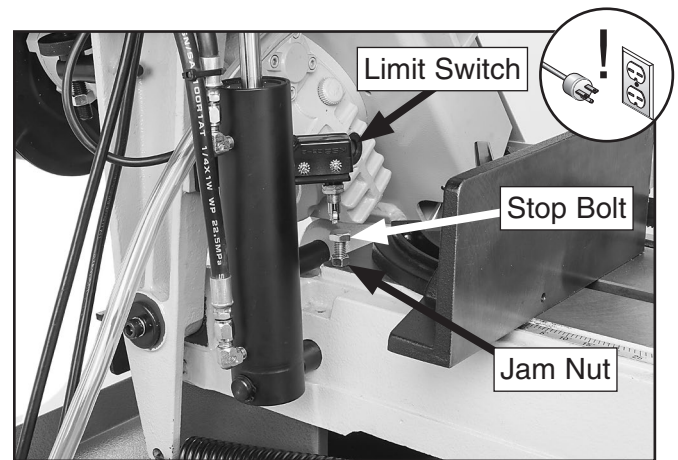

Figure 56. Limit switch stop bolt and jam nut location.
3. Listen for click from limit switch (see **Figure 56**) when headstock reaches bottom of its travel. If switch does not click, loosen jam nut (see **Figure 56**), slightly adjust stop bolt, and repeat until satisfactory.
4. Tighten jam nut (see **Figure 56**) against base to prevent stop bolt from loosening during use.